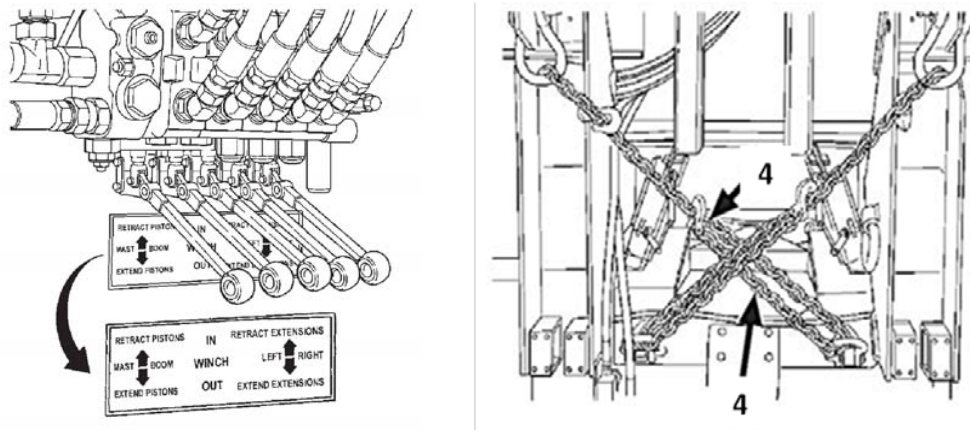

Figure 3 - Valve control levers and safety chain figures
- Using valve control levers, **MAST EXTEND** until there is slack in the safety chains (4). Remove the chains and stow. (figure 3)